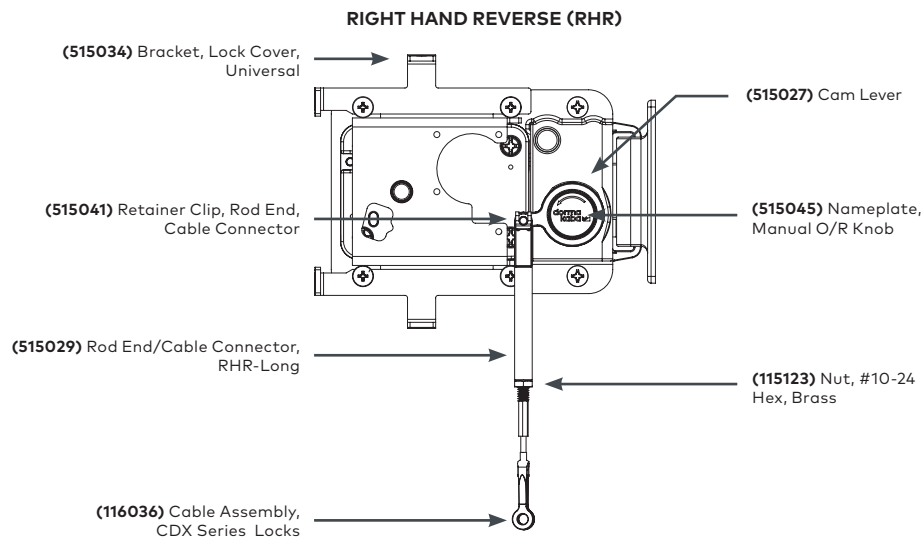

Figure 7
These steps describe how to attach the rod end connector (**515040** or **515029**), Figures 7 and 8, and stainless steel mechanical cable assembly (**116036**) to the lock and Rim Exit Device chassis. It also describes how to connect the cable assembly, and adjusting the cable length to achieve proper timing of the high security lock bolt retraction relative to the Rim Exit Device latchbolt.
3. Refer to Figure 7 or Figure 8 depending on the handing of the installation.
2. Refer to Figure 7 or Figure 8 depending on the handing of the installation. Spread the (Clevis) strap fork over the upper Lever Arm (**DK9300-020-520**) of the Rim Exit Device chassis and align the strap fork holes with the hole in the (Clevis).